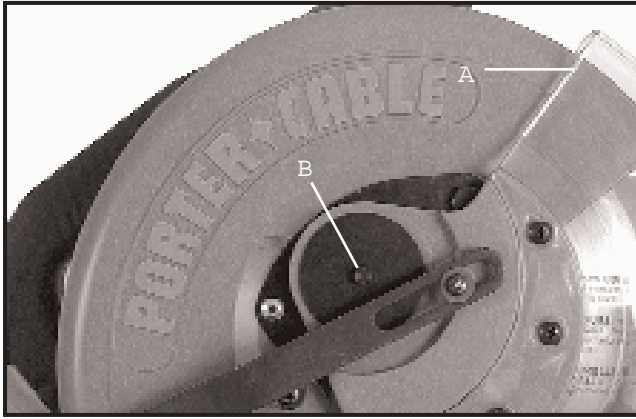
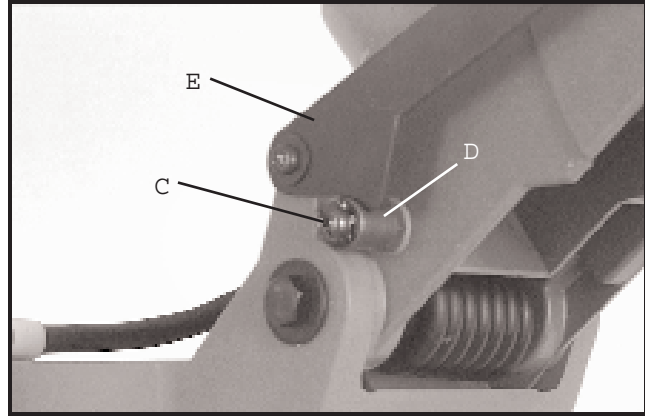

Fig. 32
Fig. 33
1. After an extended period of time, the movable blade guard (A) Fig. 32, might become sloppy and move erratically when the cuttinghead is lowered. This can be easily corrected by slightly tightening nut (B) until the lower blade guard (A) moves smoothly.
2. As soon as the cuttinghead begins to lower, the lower blade guard (A) Fig. 32, should begin to move. If it does not, simply loosen screw (C) Fig. 33, and rotate eccentric (D) so that the eccentric (D) is contacting the actuating arm (E) when the cuttinghead is in the top position. Then tighten screw (C).